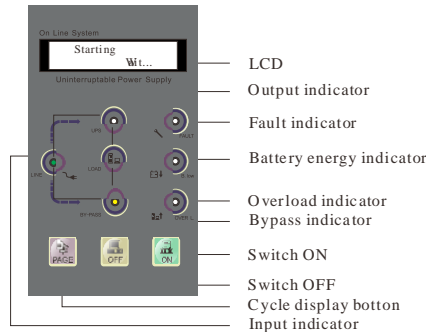

Figure 19
2. Press the “ON” button on front panel. As per figure 19. The input indicator and the bypass indicator are solid on. LCD display is lit on. Output is utility powered via bypass.